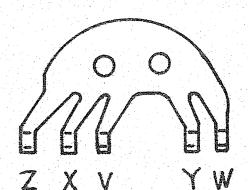

fig. 20 Timing chart of manual-control circuit
- 2) In the manual shutter control, closing Shutter SW drops V-AUTO. At this moment, the voltage at the terminal negative of Timing capacitor goes high, and it follows the high output of Comparator. Thus, the transistor becomes ON to energize Electromagnet for Closing curtain. See Figure 20 .